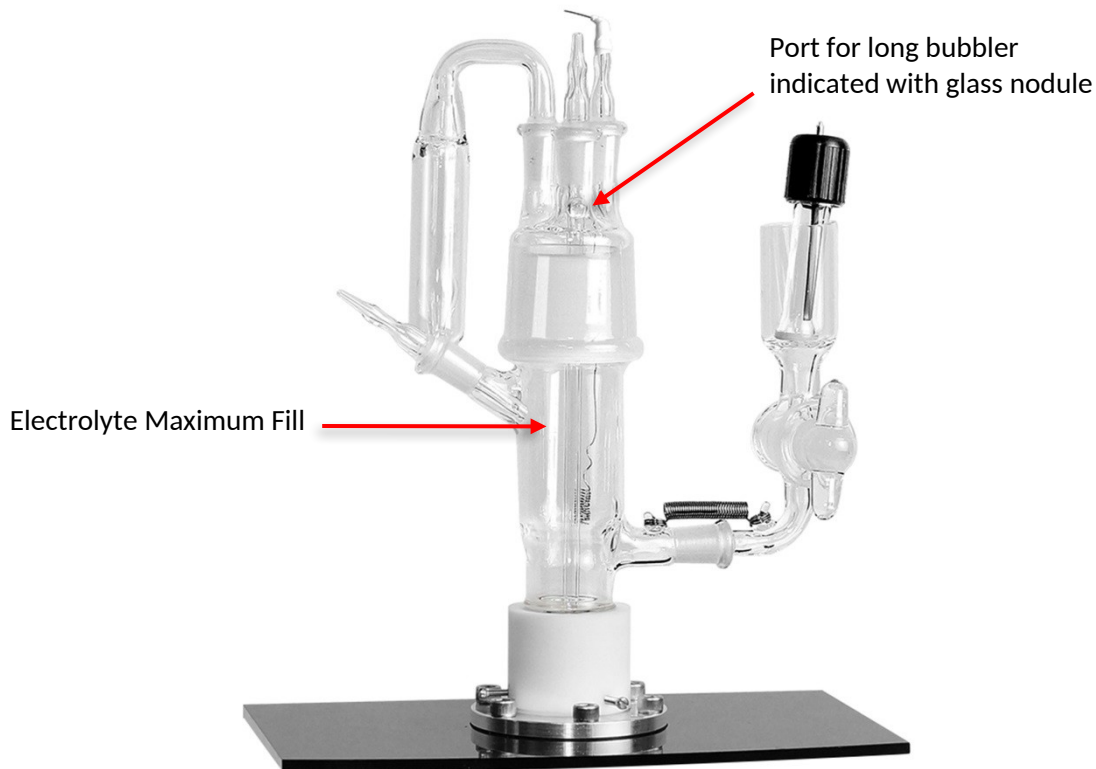

Fig. 12) Complete J1F cell assembly.
2. After filling the cell with electrolyte place the bubblers, gas trap, and counter electrode in the cell. The port for the long bubbler is indicated with a glass nodule (Fig. 12). Best practice is to have the reference arm stopcock closed when first filling the cell with electrolyte and during the subsequent step.